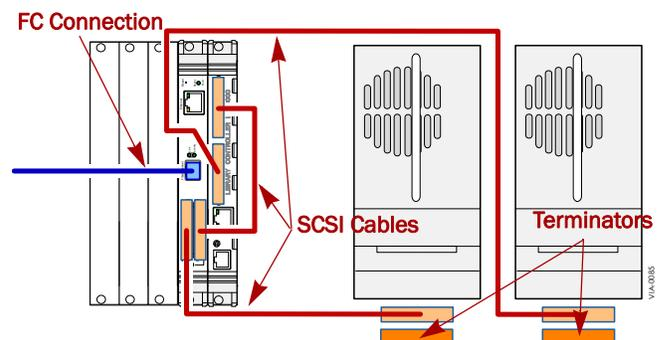

Figure 4. Cabling When FCO3 Controls Library & Drives
5. Connect the drives to the **LCC SCSI port 2** (Figure 4).